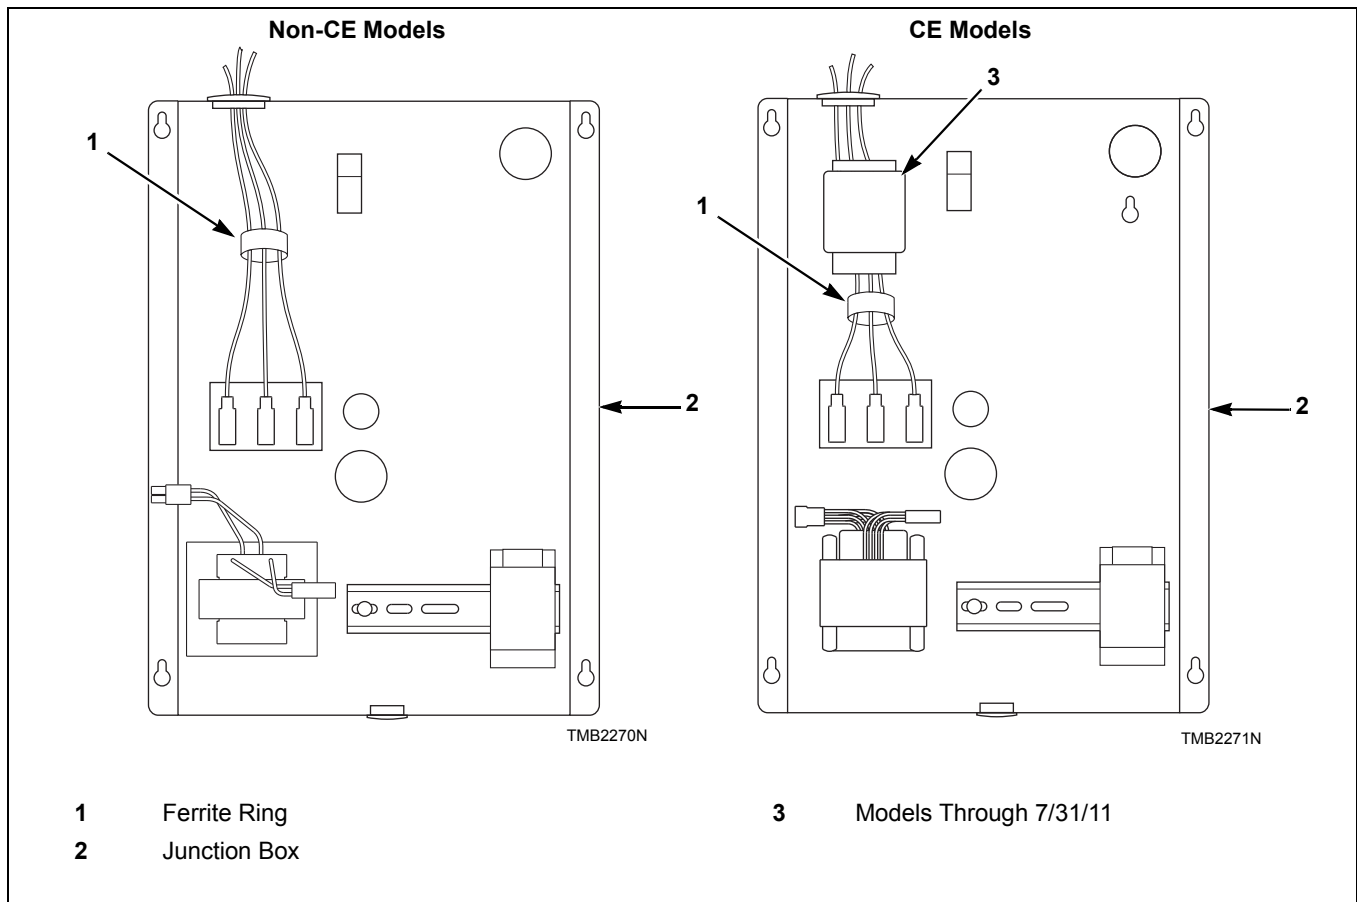

Figure 13
2. Snap the ferrite ring closed over all the service leads inside of the contactor box as shown. It is important that the ferrite ring be installed inside the contactor box. Refer to *Figure 13*. Do not install the ferrite outside of the box or other area. Make sure that service leads are in the center of the ferrite before closing the ring so not to pinch or damage leads.